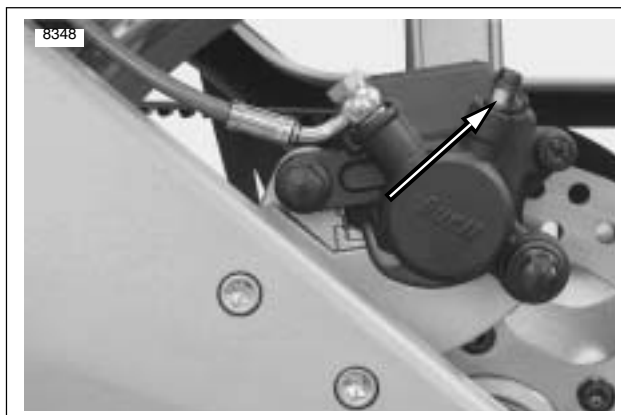

Figure 1-9. Rear Caliper Bleeder Valve
1. See Figure 1-9. Install end of plastic tubing over rear caliper bleeder valve; place other end in a clean container. Stand motorcycle upright.